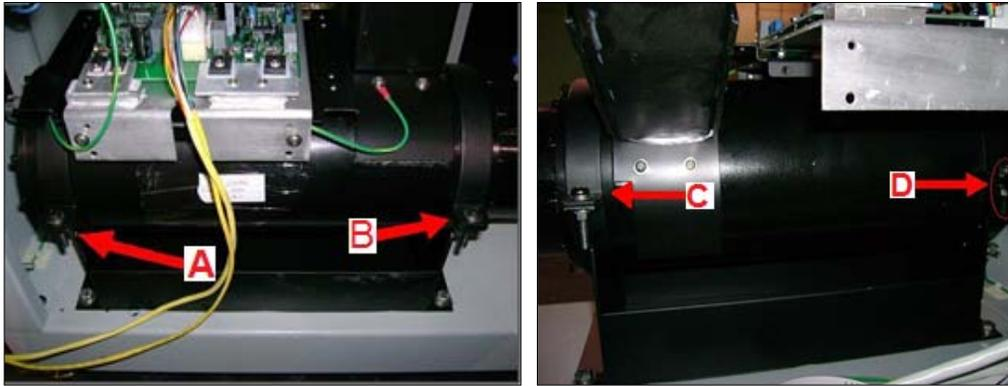

Figure 190: Generator Fastening Bolts
3. Remove the control board from the generator. You must first remove the left front bolt from the generator (A in Figure 190) and the back bolt on the same side (D in Figure 190).
5. Remove the right side front bolt from the generator (B in Figure 190) and the rear bolt (C in Figure 190). Then remove the bracket from the generator.
13. Reattach the right and left brackets (See Figure 190).